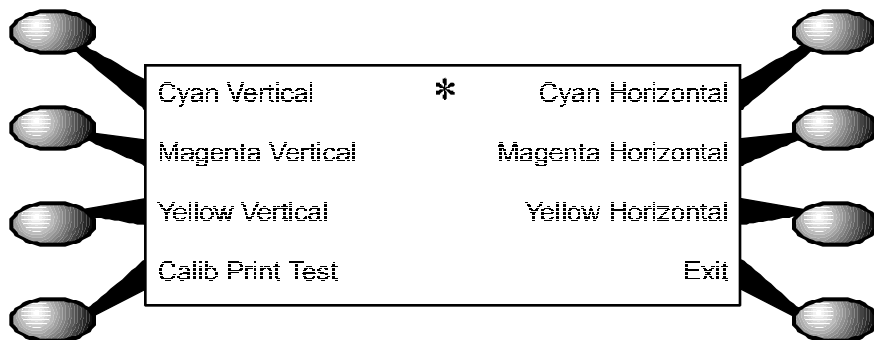

Figure 3-20. Color Calib Menu.
2. From the Utility Menu, select "Color Calib Menu". This brings up the color calibration menu and it looks like Figure 3-20.